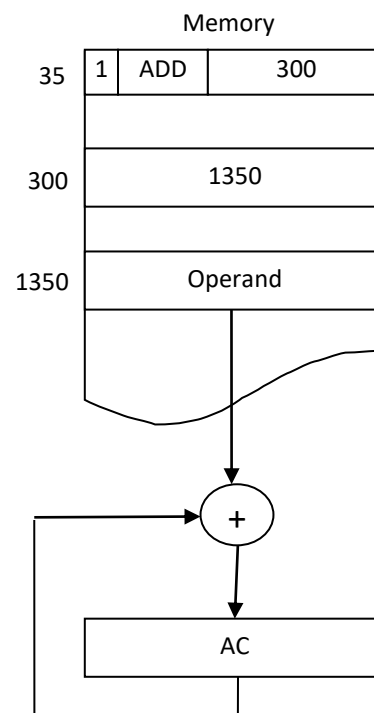

Figure 2.3: Indirect Address
- The instruction in address 35 shown in Figure 2.3 has a mode bit I = 1, recognized as an indirect address instruction.